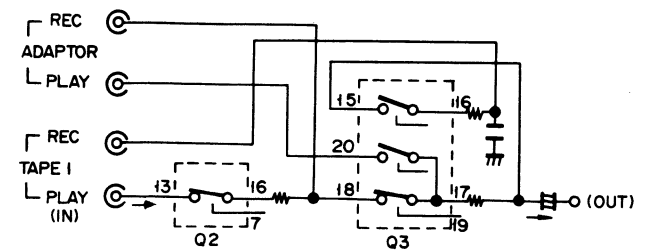

Fig. 7-4 Signal path for tape 1 on, adaptor off
2. Simultaneously, pin 4 of Q301 goes to the low level and Q205 turns off. When Q205 turns off, pin 14 of Q3 switches to the high level and the switches off pins 15 and 16 of Q3. The reason for this is to prevent oscillations when tape 1 is used by forming a signal loop between the play and rec terminals (Q205 is on at all times except when tape 1 is used). The path of these signals is shown in figure 7-4.